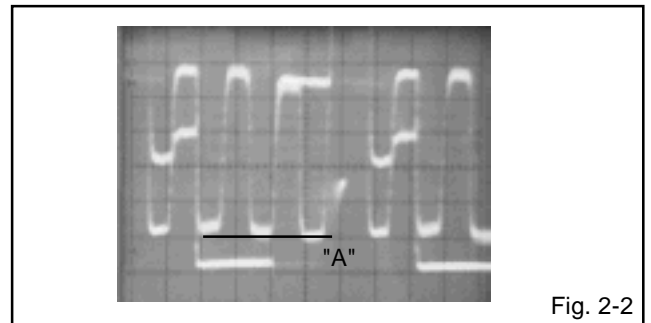

Fig. 2-2
4. Press the VOL. UP/DOWN button on the remote control until the section "A" becomes as straight line. **(Refer to Fig. 2-2)**